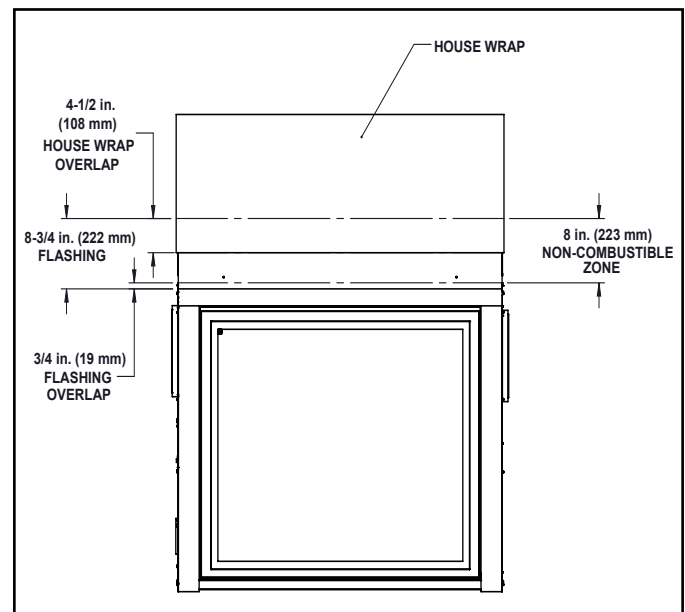

Figure 10.3 Exterior Side
3. For placement of house wrap or building paper and tape see Figure 10.3. Special care should be taken when choosing building materials or weatherproofing (i.e. buiding wraps, sealant tapes, liquid sealants, rubberized flashings, etc.). All sealant materials or building wraps installaed must be approved to a minimum temperature of 225 °F (124 °C) continuous exposure. Consult the material's manufacturer to ensure product compliance.